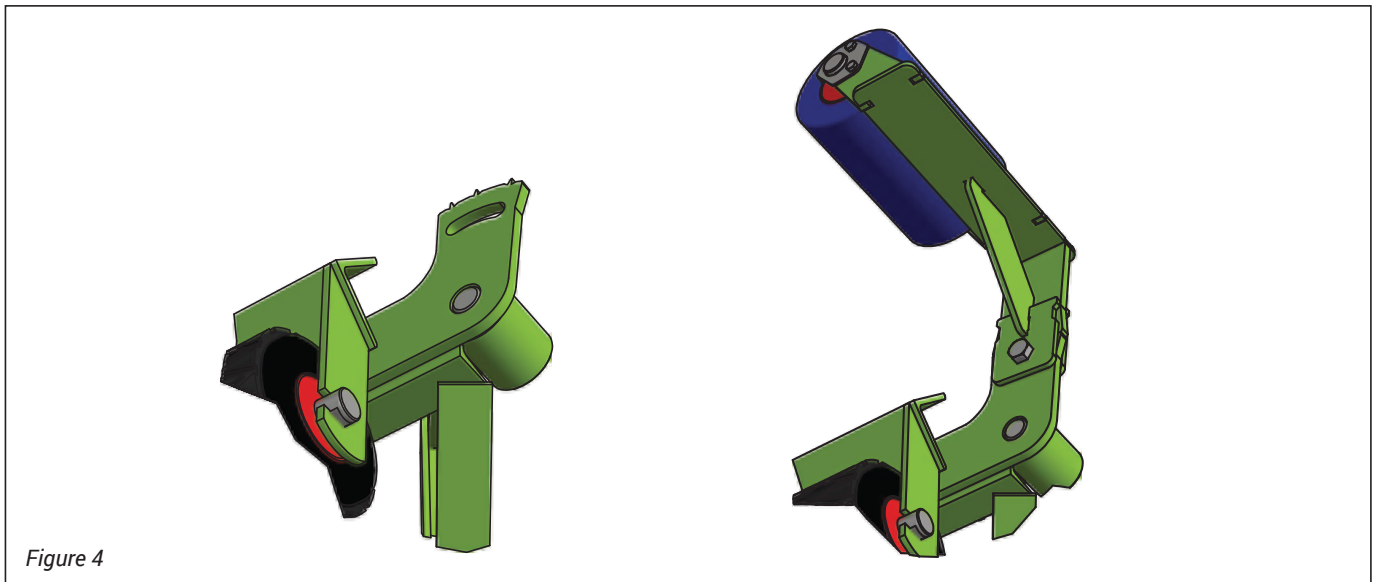

Figure 4
15. Mount the sensor arms to the Benetech Troughing Idler® frame (*Figure 4*)– Area indicated at No.4 in *Figure 2*.